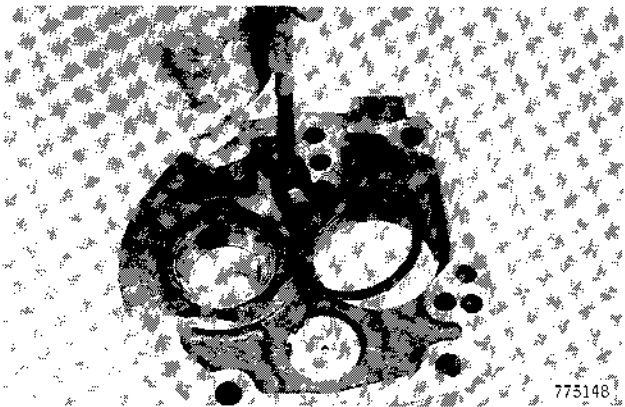

Figure 155
8. Install snap ring in input shaft mounting hole, Figure 155.